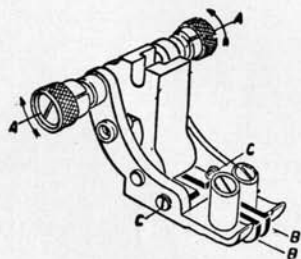
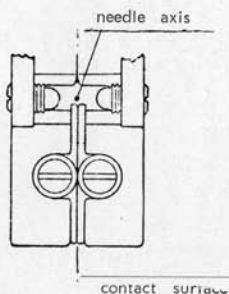
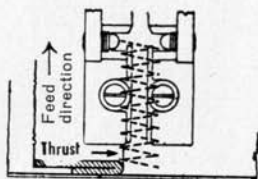

Fig. 25
Fig. 26
Fig. 30
- 5) Adjust the two knurled knobs « A » (fig. 25) until needle axis is exactly passing through contact plane of the two plates « B », as shown in fig. 26.
- 6) By adjusting again the two knurled buttons « A » in the direction of the arrows (fig. 25), increase the distance between the two plates « B » up to the desired width, depending on the desired zig-zag stitch width that varies generally with the thickness of the fabric in use.
To correct condition a), turn left knurled knob « A » (fig. 25) in the direction opposite to that of the arrow.
B) The fabric which runs under presser foot (fig. 30) must always be guided towards guide plates « B » (fig. 25) so as to make it slide against the latter during operation.